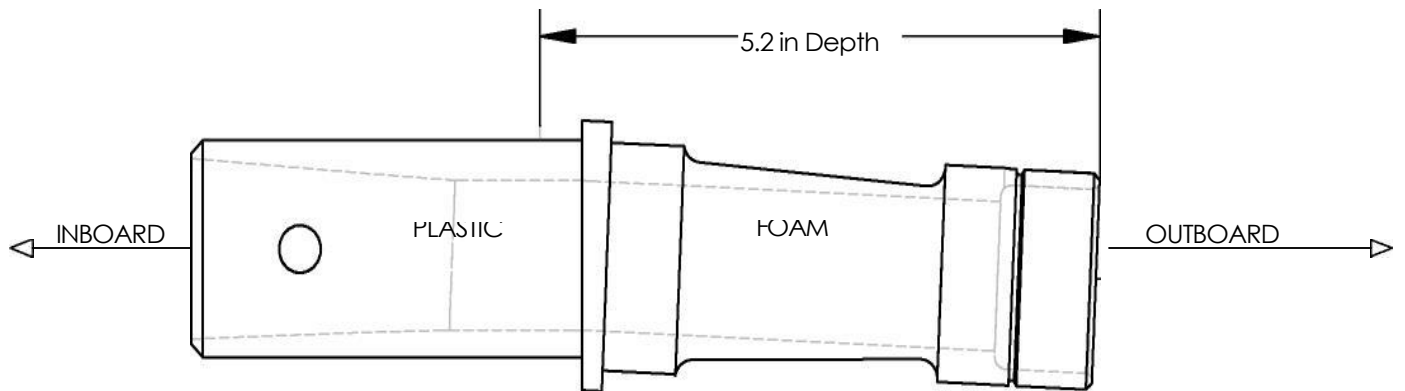

Figure 1
- h. Support drag beam for alignment and remove bolt, washers, and nut holding lower end of shock strut to drag beam (Figure1, page 3).
- i. Loosely install clamp to drag beam using short bolts and washers (Figure 1, page 3).
- j. Position inboard axle adaptor on clamp and drag beam. Install long bolts and washers in aft clamp holes (Figure 1, page 3).
- k. Position spacer between axle adaptor and drag beam and install bolts through axle adaptor, spacer and drag beam strut. Install washer and nut (Figure 1, page 3).
- o. Position inboard axle adaptor on clamp. Install long bolts and washers in axle adaptor and clamp (Figure 1, page 3).
- p. Position spacer between axle adaptor and drag beam. Install bolt, through axle adapter, spacer, drag beam strut. Install washer and nut (Figure 1, page 3).
- t. Bolt shock strut to drag beam as follows: Refer to (Figure 1, page 3).
- u. Remove the foam in main gear axles to a depth of 5.2" (inside of axle must be clean). Install outboard axle adaptor shaft, making sure to align the cotter pin hole. Torque the attaching NAS146-62SPL / MS20006SPL bolt to **45-50 in.-lbs.** (Figure 1, page 3).